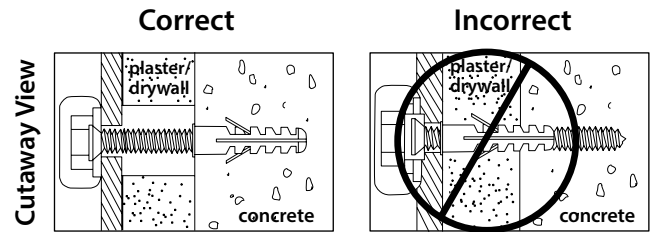

Figure 2
- Pre-drill holes into concrete using 5/16" drill bits to a depth of 2-1/2". Insert concrete wall anchors (B) and tap in with hammer, if necessary (Figures 2 & 3).